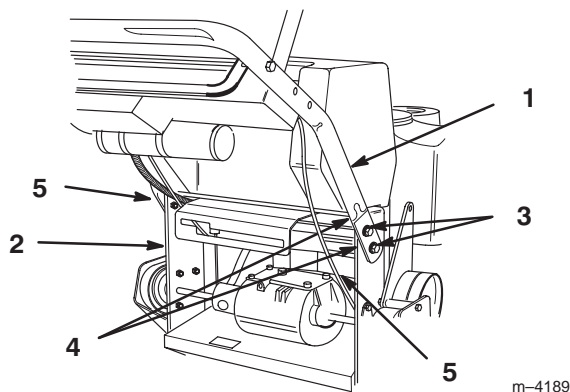

Figure 4
2. Secure each side with (2) 3/8 –16 x 1” (26mm) flange bolts and flange nuts (Fig. 4). Torque bolts to 25 ft. lbs. (34 N.m).
3. Route cables and wire harness inside of frame (Fig. 4). Secure wires and cable to handle with wire tie.